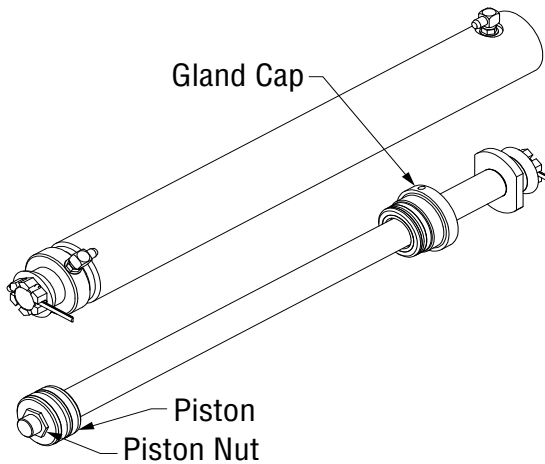

Figure 4-5, Cylinder Parts
3. Use a spanner wrench or similar tool to unscrew the gland cap from the cylinder tube. (Figure 4-5)
6. Remove the piston retaining nut and remove the piston. (Figure 4-5)